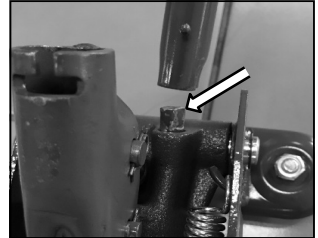

fig 3.
3. Slide the handle assembly into the Handle Base [3]. The handle assembly will be required to be slowly twisted for the hex shaped drive of the release valve to engaged into the handle assembly slot (fig.3).